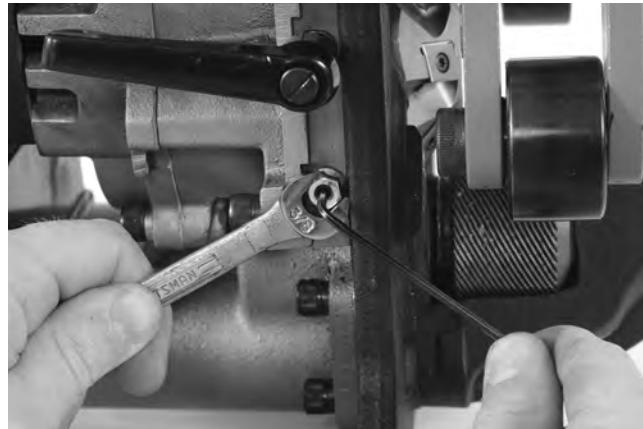

Figure 27 – Gib Plate Adjustment
5. While holding set screws in place with the hex key, tighten the jam nuts (Figure 27).